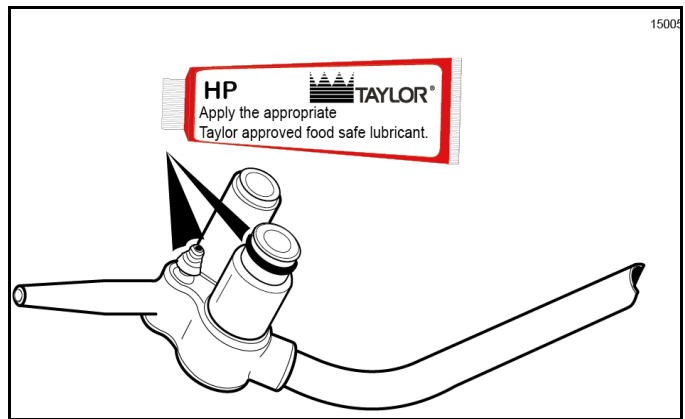

Figure 6-23
7. Assemble the mix inlet tube assembly. Slide the O-ring and the seal into the grooves on the fittings and thoroughly lubricate these parts. (See Figure 6-23.)